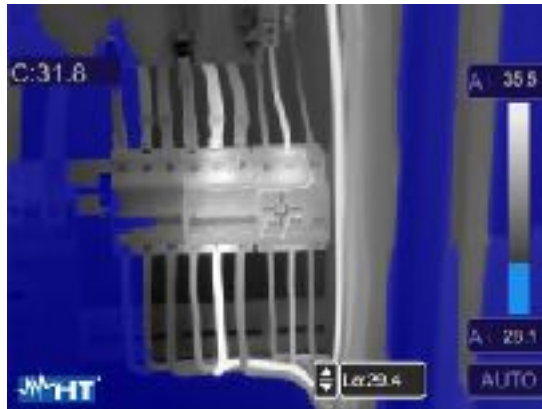

Fig. 38: Selection of isotherm line Alarm low Temp.
7. Touch the “Lo” field at the bottom of the display and use the arrow keys ▲ or ▼ to set the value of the **minimum** temperature threshold below which the instrument shows image spots in blue color, and the remaining spots in grey color (see Fig. 38).